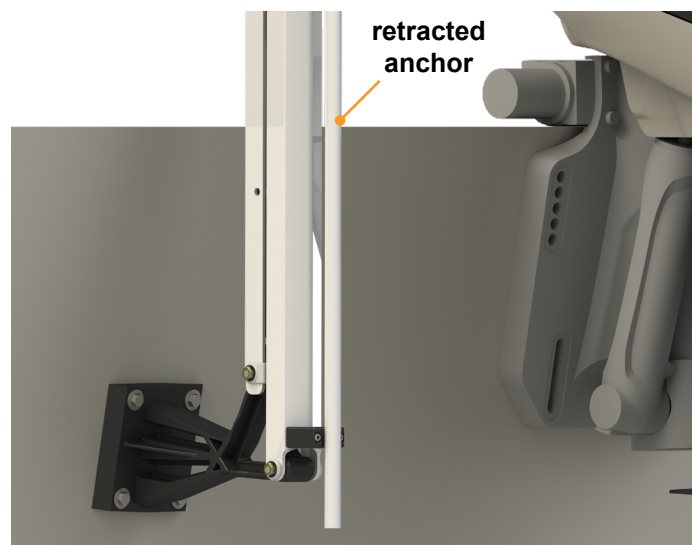

Fig.10
5. Using straps or some other type of cordage, firmly secure the anchor in its upright, stored position (Fig.10) before going underway.